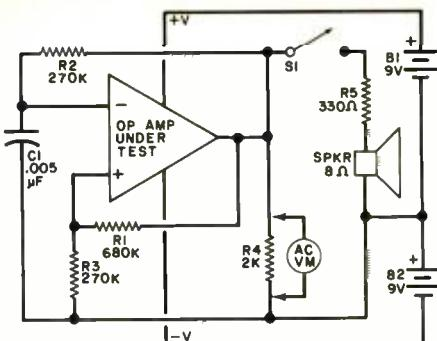

Fig. 1. Simple op amp tester has meter and audio outputs.
**Op-Amp Testing.** The first experiment to try with your op amp is shown schematically in Fig. 1. This is an op-amp test circuit, a multivibrator arrangement where the IC acts as a free-running oscillator that produces a square-wave output.
to that shown in Fig. 1, except that the value of  $C_1$  has been greatly increased to slow down the repetition rate to about 1 Hz (1 pps). Display circuit A shows the addition of a conventional silicon diode and a LED (any color) that will pulse on with each positive-going portion of the oscillation pulse. The variation shown in circuit B employs two differently colored LED's. Arranged with silicon diodes, the LED's pulse on and off in step with the op amp's oscillator signal. (Note: some of the older type green and yellow LED's require more drive current than do red LED's, which means that they might not glow as brightly. If you use the newer GaP green or yellow LED's, you will encounter no difficulty in glow light level.) The two-color circuit can also serve as a polarity indicator for other circuits, if you assume the red LED to be on for one polarity and the green LED on for the other polarity.